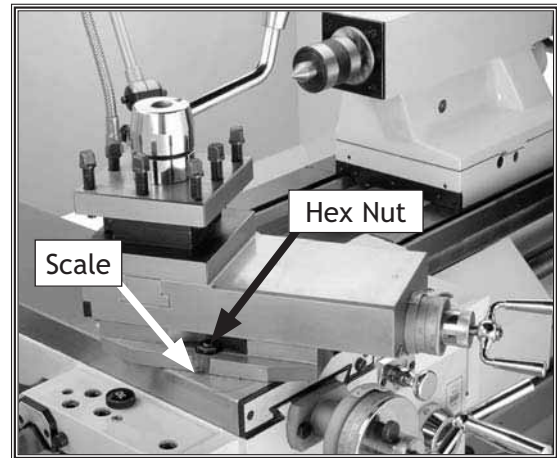

Figure 48. Compound slide set at an angle.
1. Loosen the hex nuts on each side of the compound slide (see **Figure 48**).